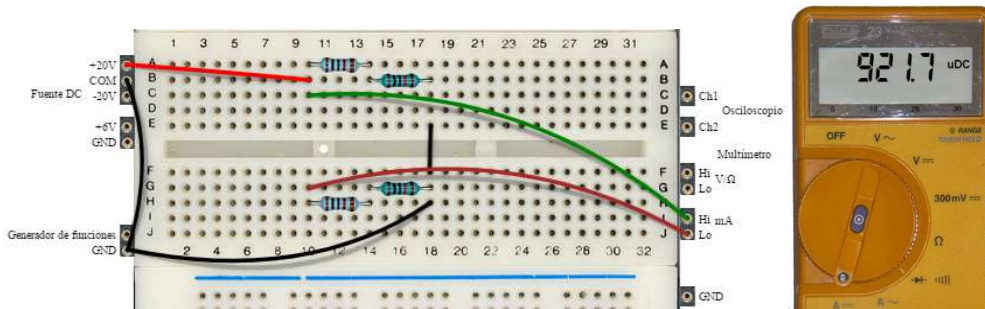

Figure 14. Measure of the current in the new branch
- On the same schema on Figure 14, we can measure the current in the upper branch of the circuit. As the equivalent resistance of that branch is the same as in the lower branch ( $10k + 1k = 11k$ ), the current is the same